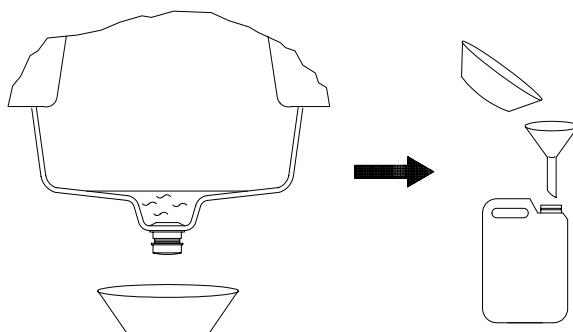

Figure 2: Vidange des restes
- Empty the tank by means of the drain plug, and collect the new residue in a well sealed jerry-can (See figure 2) Tilting the machine a few degrees forwards will ease the emptying.